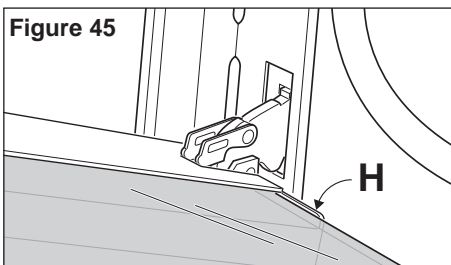

Figure 46
- Gently push the glass retainer back into place. You should be able to hear the tabs on both sides click as they lock the glass retainer in (fig. 46). Please take special care to reassemble it correctly: if correctly fitted, the descending section shall be towards the inside of oven.